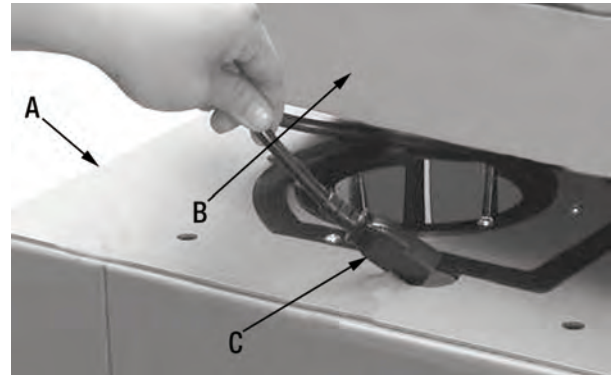
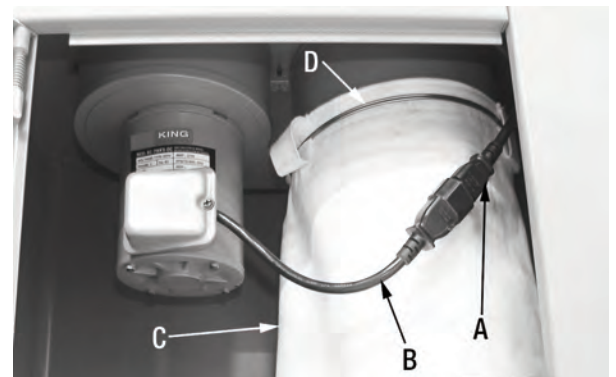

Figure 5
Figure 6
1. Position the cabinet stand (A) Fig.5 on a firm and level surface.
2. Lift the Belt and Disc sander (B) onto the top of the cabinet stand.
3. If you are assembling model KC-790FX-DC with the built-in dust collector onto the cabinet stand, make sure to pass the dust collector cord (C) into the small hole in the top of the cabinet stand as shown.
5. If you are assembling model KC-790FX-DC with the built-in dust collector, connect the dust collector cord (A) Fig.6 to the dust collector motor cord (B) as shown. Also make sure the dust bag (C) Fig.6 is clamped properly with the wire clamp (D).